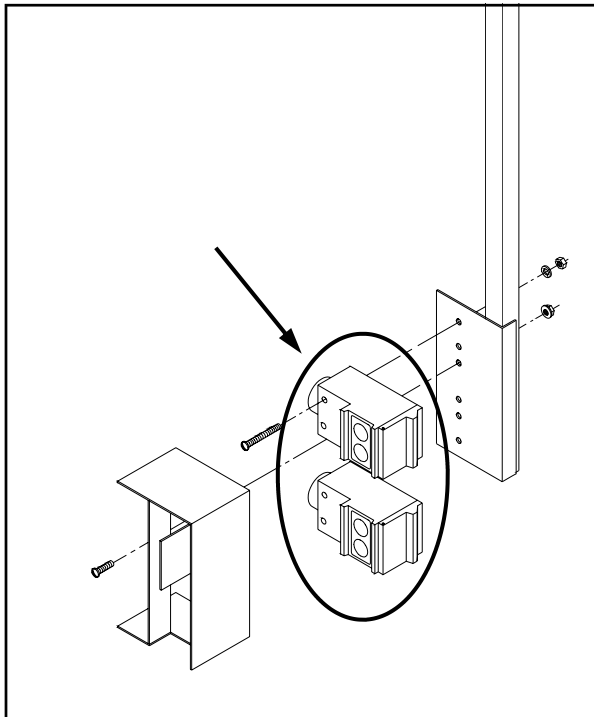
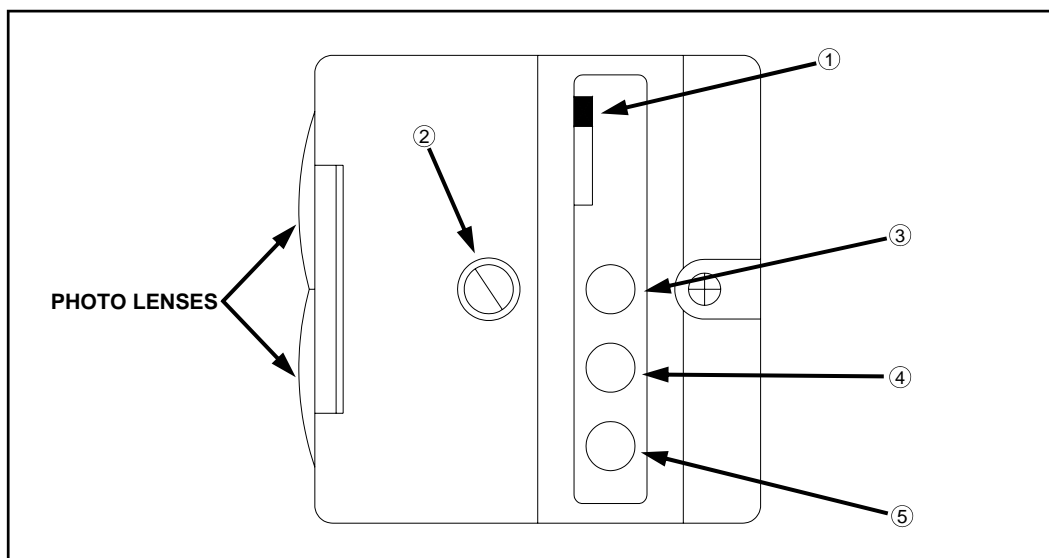

FIG 5.39
FIG 5.40
The upper and lower LS photolights (fig. 5.39) have L.E.D. lights (fig. 5.40) that indicate their operational status.
**LT/DK SWITCH** – Light/Dark switch on photolight (fig. 5.40, item 1) changes the activated condition of green L.E.D. (see below) from *ON* (“LT”) to *OFF* (“DK”). Switch does not affect the functional operation of the light, only how it is displayed. Switch should be set to “LT”.
**SENSITIVITY ADJUSTMENT SCREW** – Sensitivity adjustment screw (fig. 5.40, item 2) should always be set to maximum.
**YELLOW L.E.D.** – Yellow L.E.D. (fig. 5.40, item 3) indicates power on.
**GREEN L.E.D.** – Green L.E.D. (fig. 5.40, item 4) indicates output energized (sending a signal to Tassel-trol® box, opening the raise or lower stack valve).
**RED L.E.D.** – Red L.E.D. (fig. 5.40, item 5) indicates photolight is receiving reflected signal.